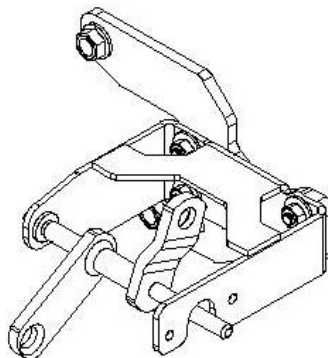

Figure 8
49. Locate transfer case linkage u-bracket, mounting plate, and hardware kit 119 (figure 8)